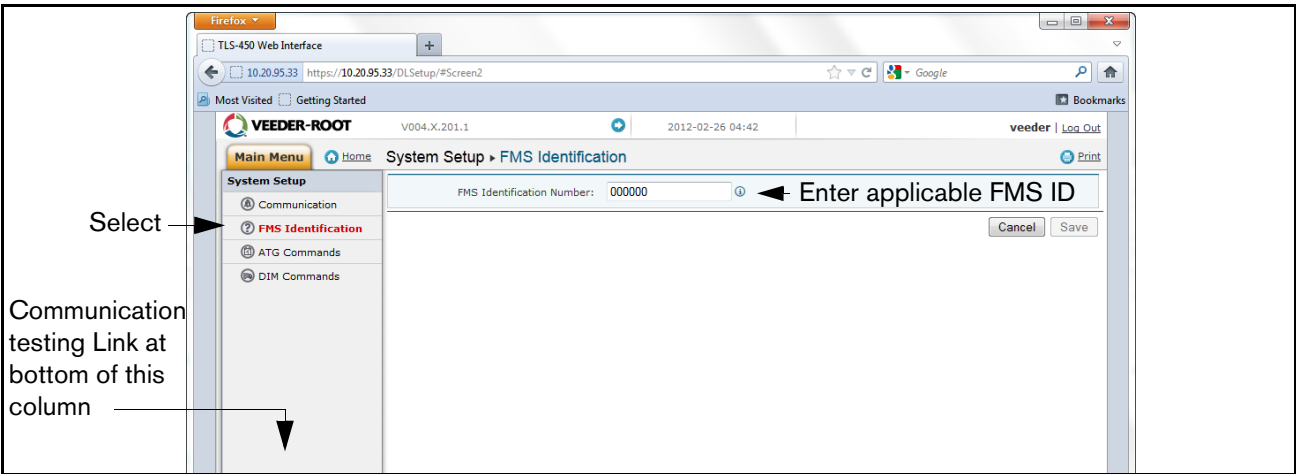

Figure B-14. Example FMS ID Entry
16. Select the “FMS Identification” screen and enter the six-digit FMS site identification number. Then click on the “Save” button (see Figure B-14).